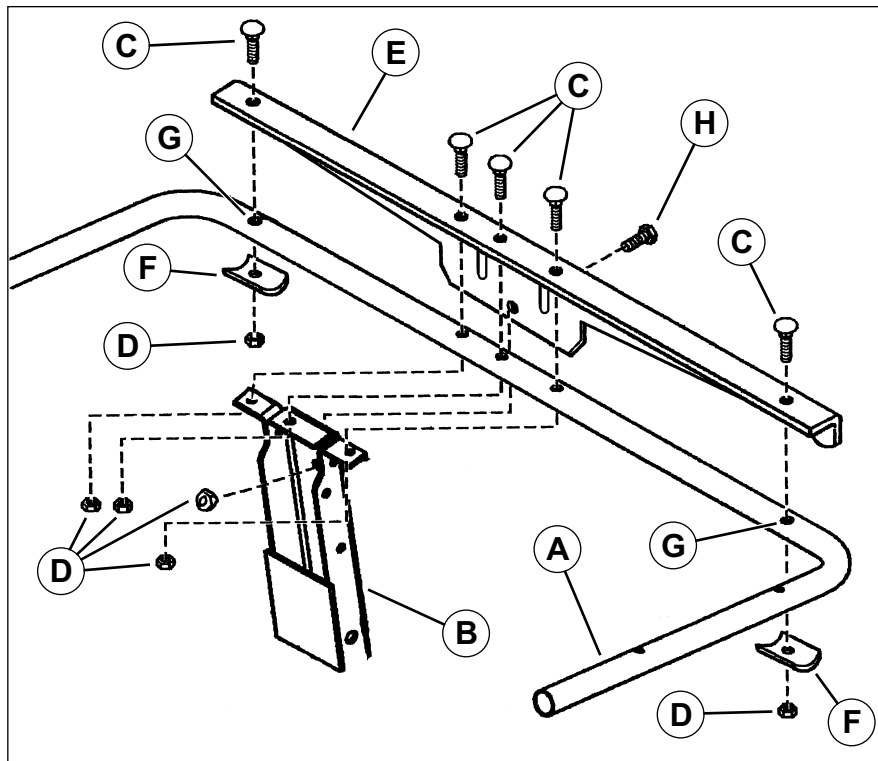

FIGURE 1
STEP 4: Remove the hardware securing the U-tube (A, Figure 1) to the channel assembly (B). Do not remove the center support tube (not shown) from the channel assembly.
STEP 5: Reinstall the U-tube with the supplied stiffener bracket (E) onto the channel assembly, securing with three of the supplied carriage bolts (C) and flange nuts (D). Do not tighten the hardware yet.